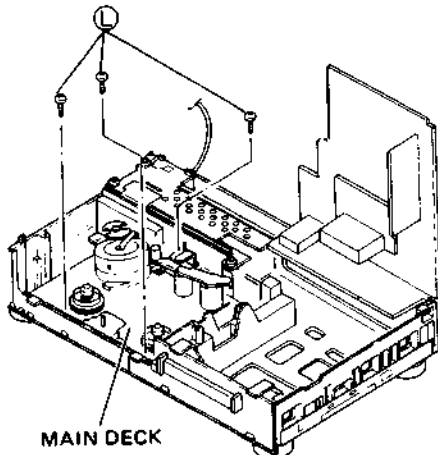

Fig. 1-1-10 Main-deck
2. Refer to Fig. 1-1-10 and take out 3 screws (L) from the main-deck assembly.